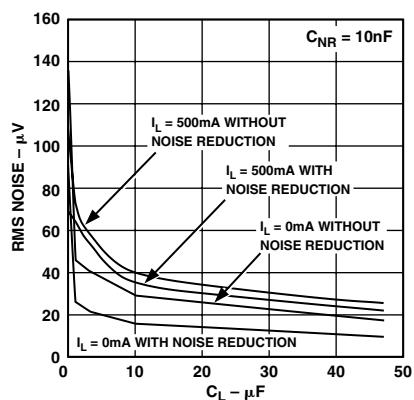

Figure 18. RMS Noise vs. C_L (10 Hz–100 kHz)
A noise reduction capacitor (C_{NR}) can be used to further reduce the noise by 6 dB–10 dB (Figure 18) low leakage capacitors in 10 pF–500 pF range provide the best performance. Since the noise reduction pin (NR) is internally connected to a high impedance node, any connection to this node should be carefully done to avoid noise pickup from external sources. The pad connected to this pin should be as small as possible and long PC board traces are not recommended.